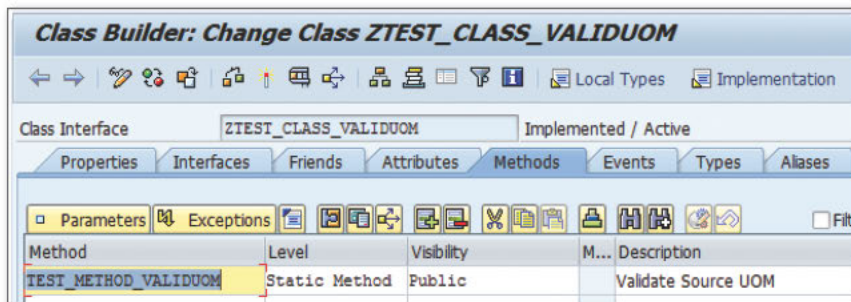

Figure 2 Creating a Method for the Class
3. Now move to the METHODS tab (see Figure 2), and create a class method named "TEST_METHOD_VALIDUOM" to implement lookup of the T006 table, store T006 table content in a static internal table, and store UOM validation logic in the method. In the method implementation, the T006 table lookup only executes if there is no content in the static T006 internal table, which will be filled during the first time of method execution.